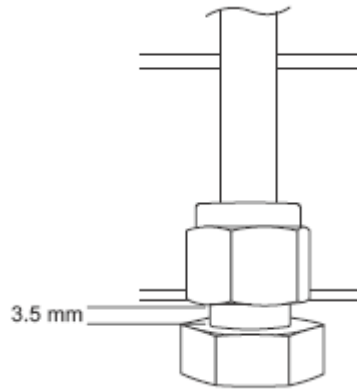

Figure 18: Swagelok Connection Gap
1. Tighten the Swagelok connections to between 1/4 and 1/2 turn past finger tight. Leave a gap of at least 3.5 mm as shown in Figure 18.